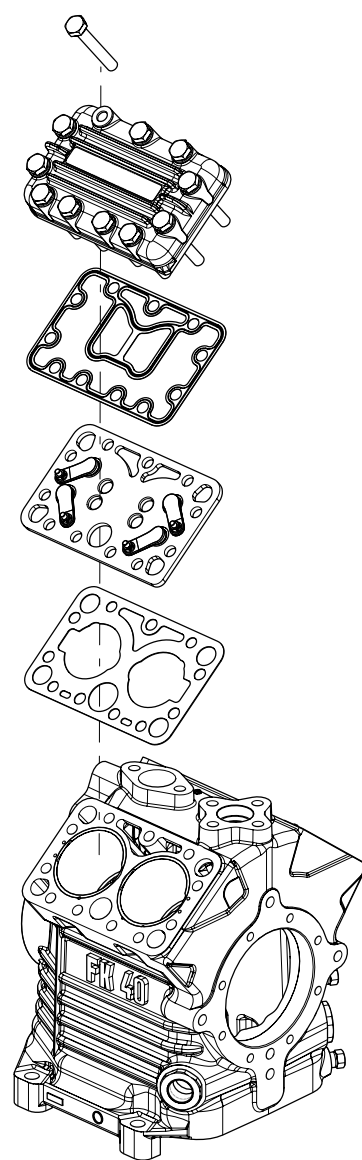
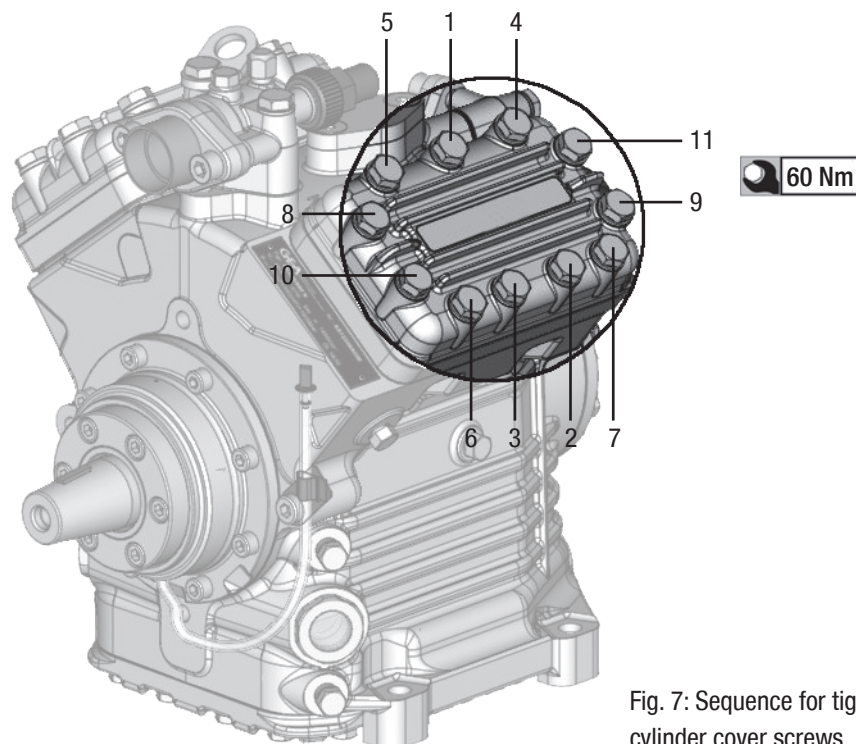

Fig. 6
Fig. 7: Sequence for tightening the cylinder cover screws
Removal (see Fig. 6):
Installation (see Fig. 6):
ATTENTION Install the K type valve plate (Item No. 80010) only with the inscription „TOP“ facing upwards (see Fig. 6).
- Tighten the cylinder cover screws (Pos. 1 in Fig. 6) according to the sequence shown in Fig. 7!